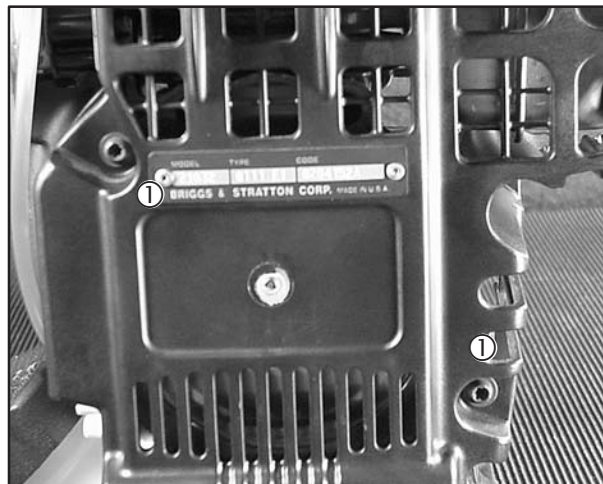

Fig. 27
1. Remove 2 screws (1) and cylinder shield, Fig. 27.